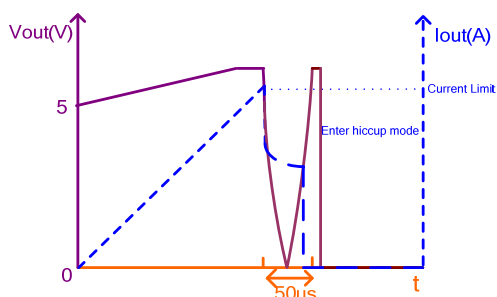

Figure 8: Over-Current Limit for CR Load
After the soft start finishes, if the USB output voltage is lower than 3.5V and lasts longer than 50μs, the MPQ4488 also enters hiccup (without having to wait for 5ms) (see Figure 8). This can prevent an abnormal thermal rise during a constant resistor (CR) load over-current case.